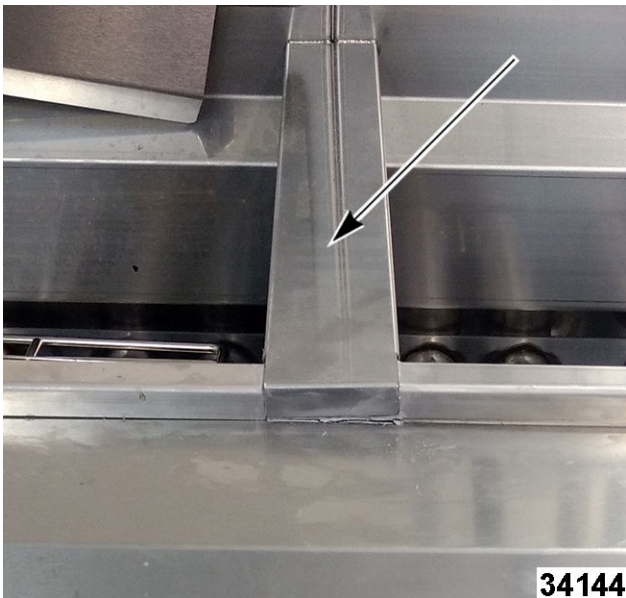

Fig. 93
- G. Banking strip (1, Fig. 93) (if a multiple tank unit).